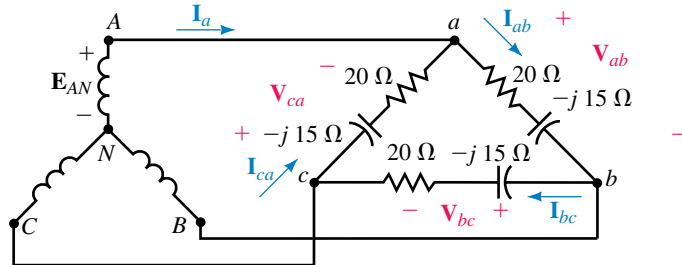

FIGURE 23–47
12. For the circuit of Figure 23–47, if $\mathbf{I}_a = 41.0 \text{ A} \angle -46.7^\circ$, find all the phase currents.
13. For the circuit of Figure 23–47, if $\mathbf{I}_{ab} = 10 \text{ A} \angle -21^\circ$, determine all the line voltages.
14. For the circuit of Figure 23–47, if line current $\mathbf{I}_a = 11.0 \text{ A} \angle 30^\circ$, find all the phase voltages.